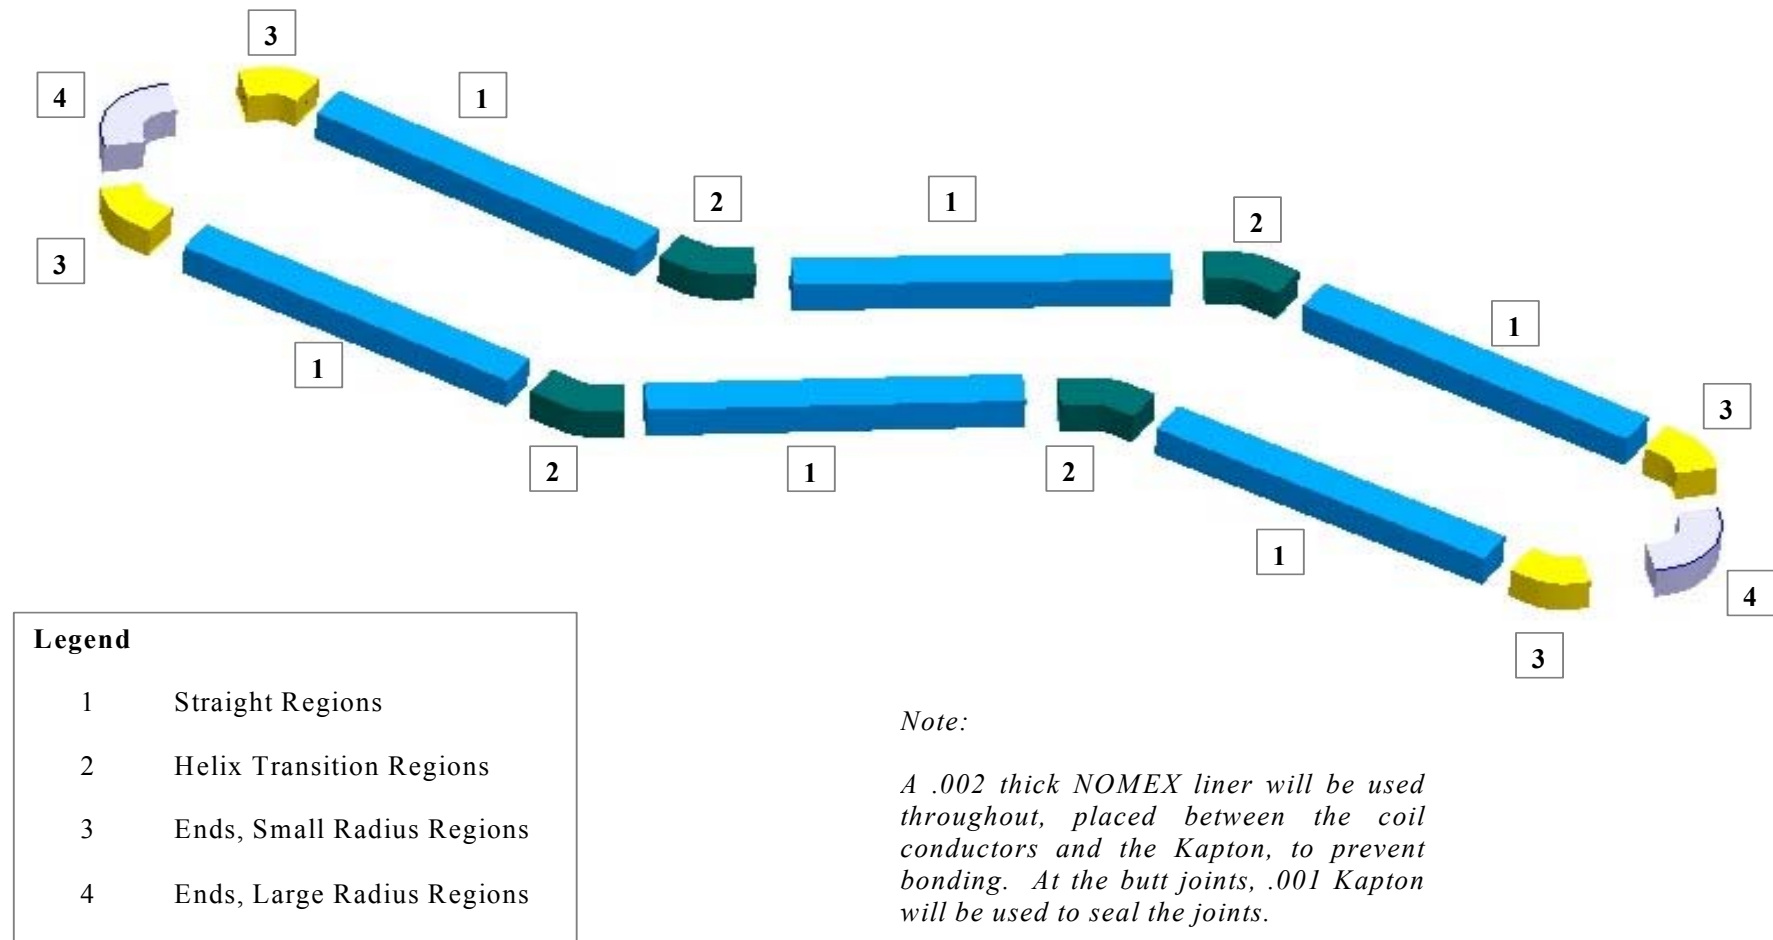

Figure 1 - Kapton Insulation Scheme
4.2.1 The coil support tube insulation is done in four different ways consistent with the four distinct regions of each slot to be insulated. A schematic showing the four regions is given in Figure 1. The start and stop points of each region are based on the ability of the Kapton pieces to conform to the required slot curvature; exact locations are left to the discretion of the technician during application.